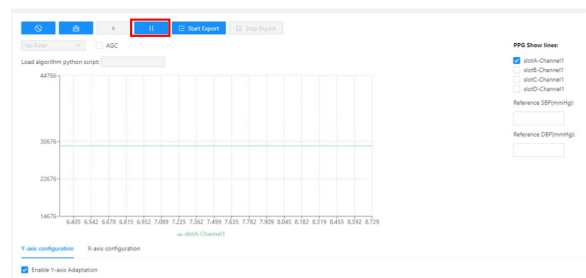

Figure 44. Stop Receiving Data
- Click the pause button to stop receiving data (see Figure 44).